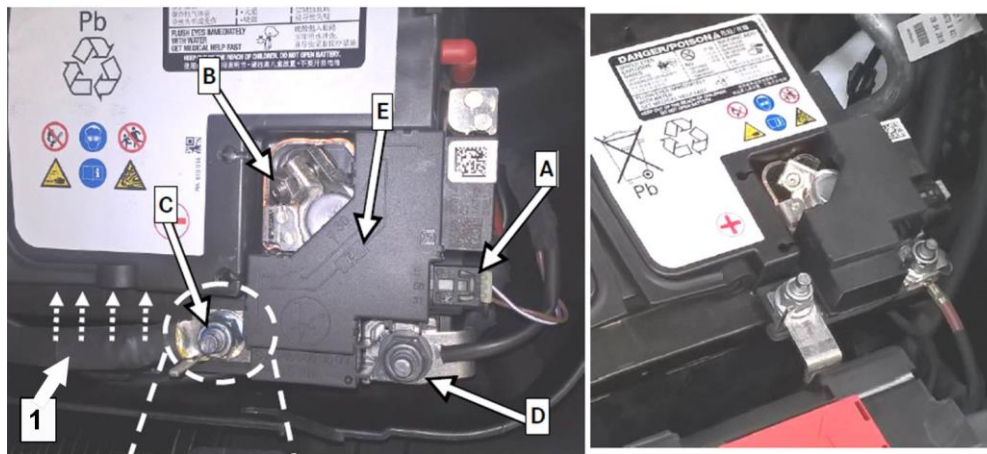

Figure 1
2. Disconnect harness connector (A, Figure 1).
3. Loosen nut (B), battery clamp for removing starting current limiter (E) from positive battery post.
6. Replace starting current limiter (E, Figure 1).